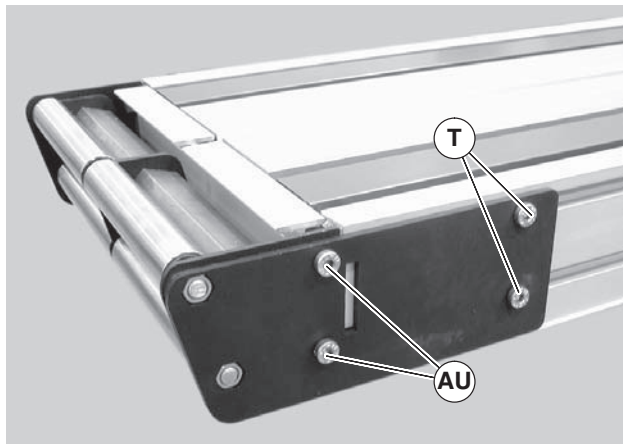

Figure 56
2. On one side of conveyor, remove the two (2) back fastening screws (Figure 56, item T), and the two (2) front fastening screws (AU)